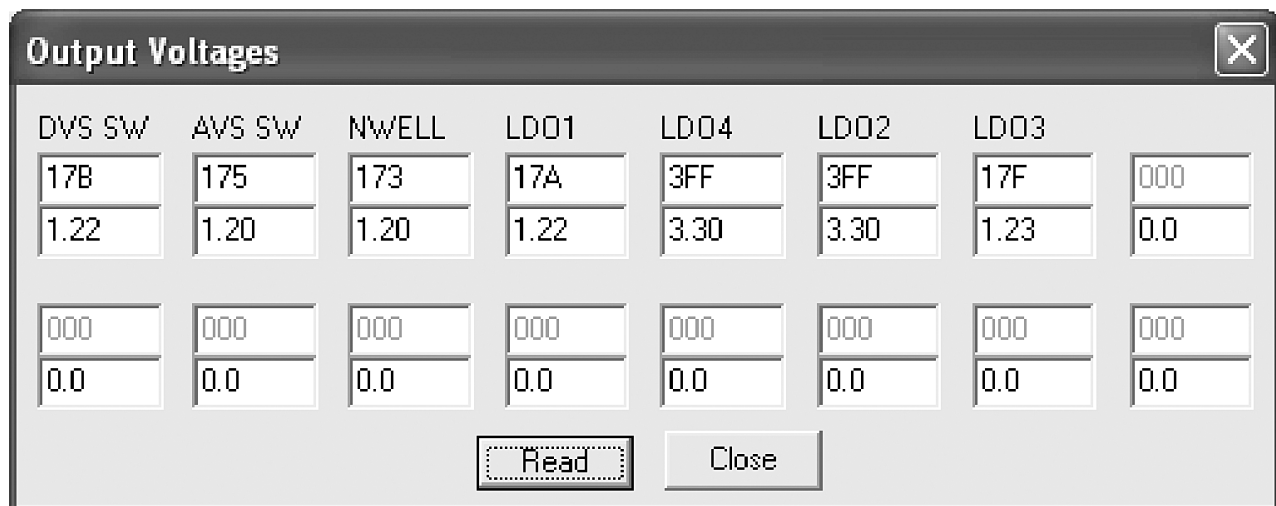

Figure 7. Output Voltages Obtained by ADCs
- Output voltages: as shown in Figure 7, 16 outputs of the on-board ADC can be shown. The first row shows the ADC data (hex format) and the second row shows the corresponding voltages.